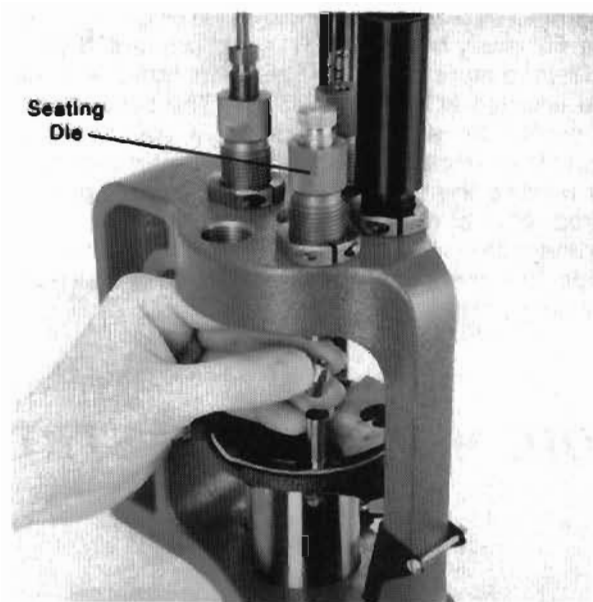

Fig. 16
**Seating Die** — The seating die is positioned in Station 4 on your press. Insert a sample case into the shell holder below Station 4, (Fig. 16) and raise the ram completely so the case sticks out of the top of the casting. Place the seating die over the case and thread into the casting. The internal floating alignment sleeve will be riding on top of the case as it enters the die. Stop threading the die when you meet resistance. Secure the seating die locking ring at this position and lower the ram with the case still in the shell holder.